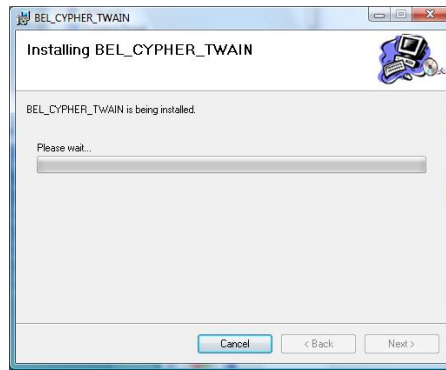

Fig 7 Installing Bel-Cypher TWAIN screen
9) The dialogue such like Fig 7 is displayed. Bel-Cypher TWAIN is installed.